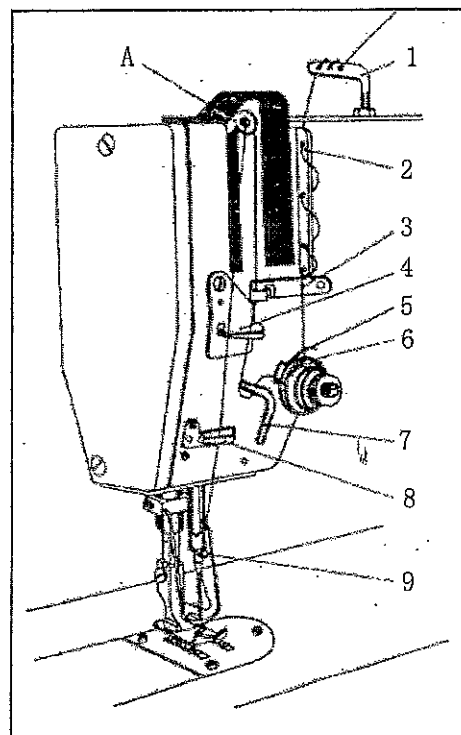

Fig.8
17. To thread upper thread(Fig.8)
Let the take up lever at its highest position. Then threading as shown in Fig.8.